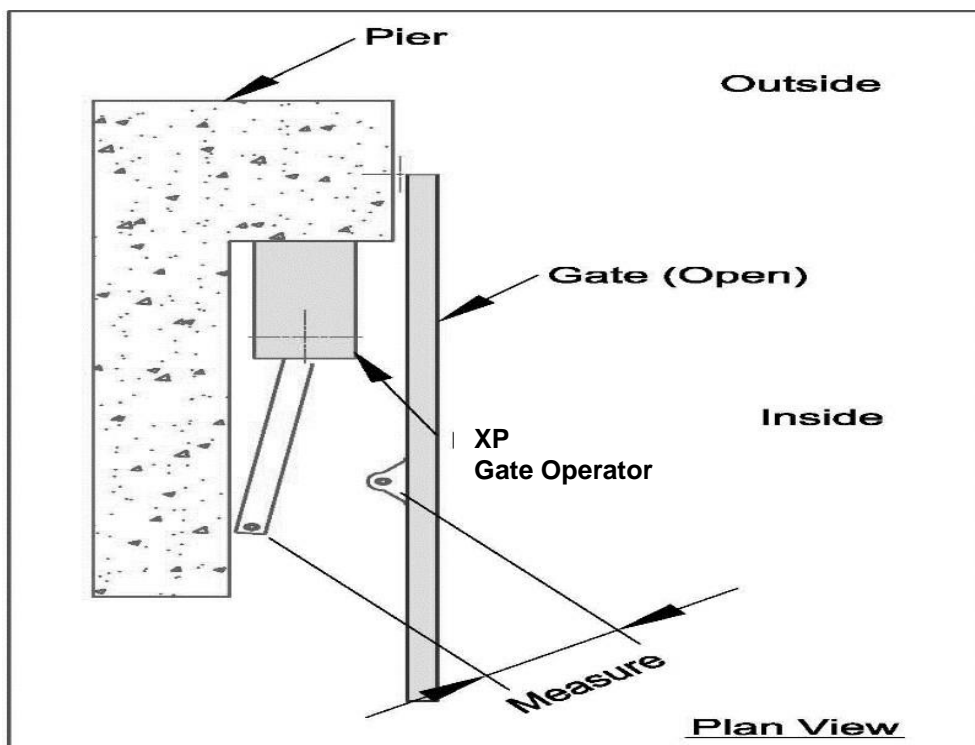

Figure 8: Re-measure length of secondary arm.
2. Mark a point on the gate suitable for the gate bracket. Holding the gate bracket in position, measure the distance between the hole centres on the gate bracket and primary arm. Move the primary arm to its maximum open position. Open the gate and measure the distance again (See figure 8). If the length has changed then the gate bracket must be re-positioned and the same process repeated until the dimensions remain the same for both positions. **Be careful that the secondary arm does not conflict with the drive shaft of the primary arm.**